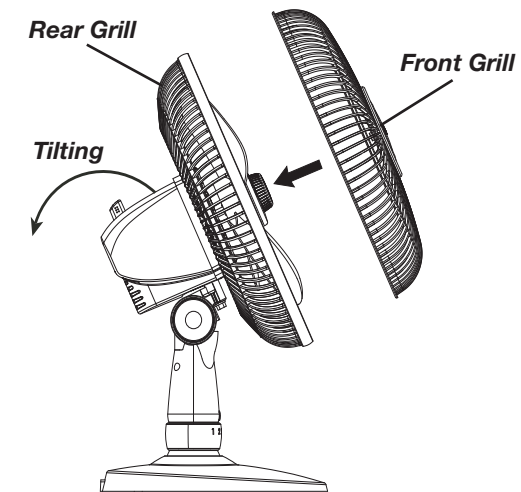

Figure 4
7. With Fan Head tilted back and centered, align *Ornament* of *Front Grill* so it is horizontal. Insert bottom of *Front Grill* into *Rear Grill*. Tab at the bottom of *Rear Grill* should be between two Spokes of *Front Grill*. Snap Front into Rear beginning at the top and working down both sides. NO GRILL CLIPS ARE NEEDED FOR ASSEMBLY. (Figure 4)
TILTING: This Fan is equipped with a multi-angle Fan Head for whole-room air circulation. Follow the steps below to properly adjust the "tilt angle" of your Fan. (Figure 4)